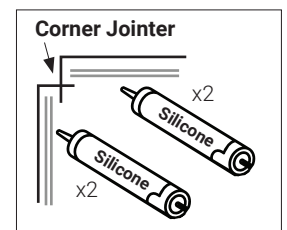

Fig 2
- Apply 2 continuous beads of silicone. One into the trim recess and one to the back face of the aluminum trim before fitting panels. (See Fig 2)